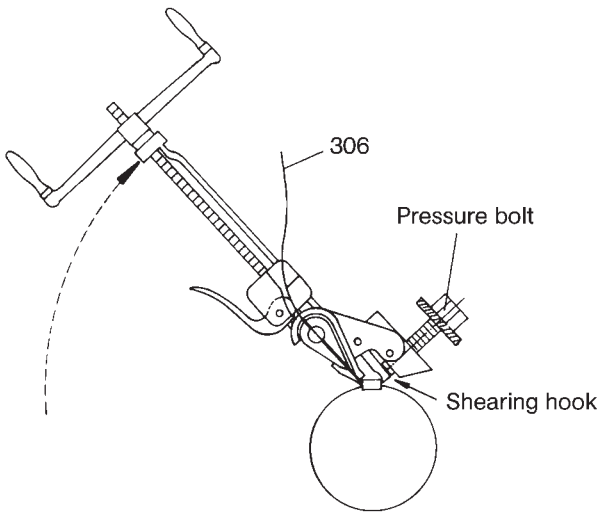

Fig. 11: Shearing off the clamping band
- Check whether the clamping band (306) fits into the groove of the cover sleeve (308) over the entire circumference.
- Slowly turn the clamping tool upwards by approx. 60° until the shearing lock grips behind the clamping band lock (see Fig. 11).